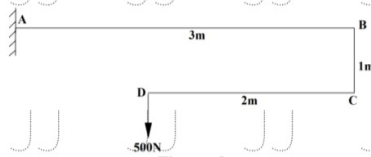

Figure: 3
3. A mild steel bar 100mm diameter is bent as shown in figure 3. It is fixed horizontally at A and a load of 500N hangs at D. Draw the bending moment diagram for the parts AB, BC and CD, indicating the maximum values. Find the maximum bending stress. Find also the deflection at D. Take $E = 2 \times 10^5 \text{ N/mm}^2$. [15]